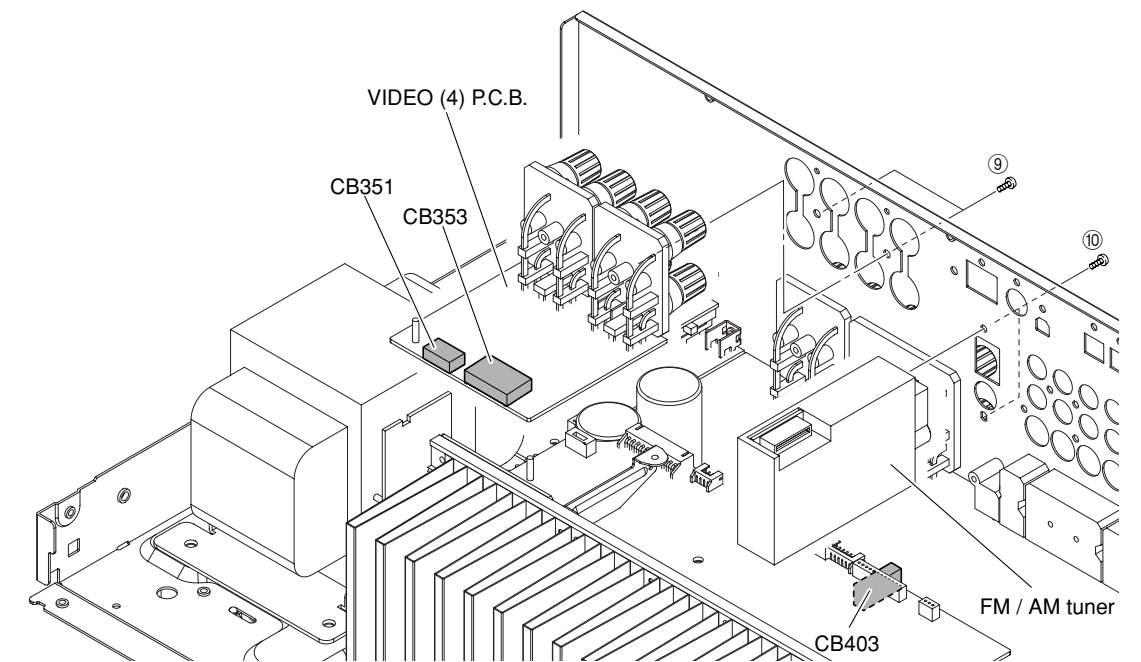

Fig. 4
- Remove 2 screws (9). (Fig. 4)
- Remove CB351 and CB353. (Fig. 4)
- Remove VIDEO (4) P.C.B. (Fig. 4)
- Remove 2 screws (10). (Fig. 4)
- Remove CB403. (Fig. 4)
- Remove FM/AM tuner. (Fig. 4)